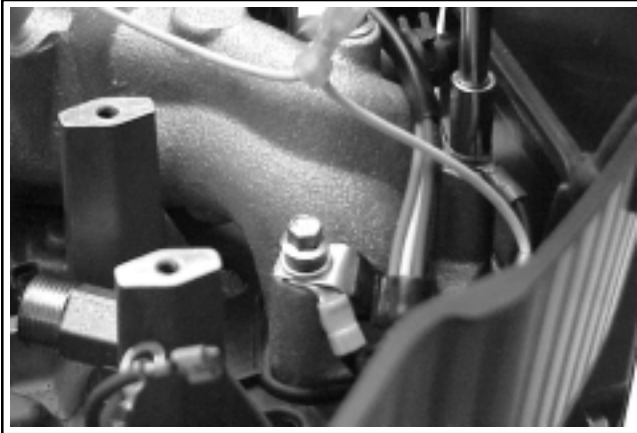

Figure 9-48. Removing No. 1 Side Intake Manifold Screws with the Ground Leads.
2. Remove the two No. 1 side intake manifold mounting screws securing the ground leads and clip for the wiring harness. Note the locations of the clip and ground leads. See Figure 9-48.